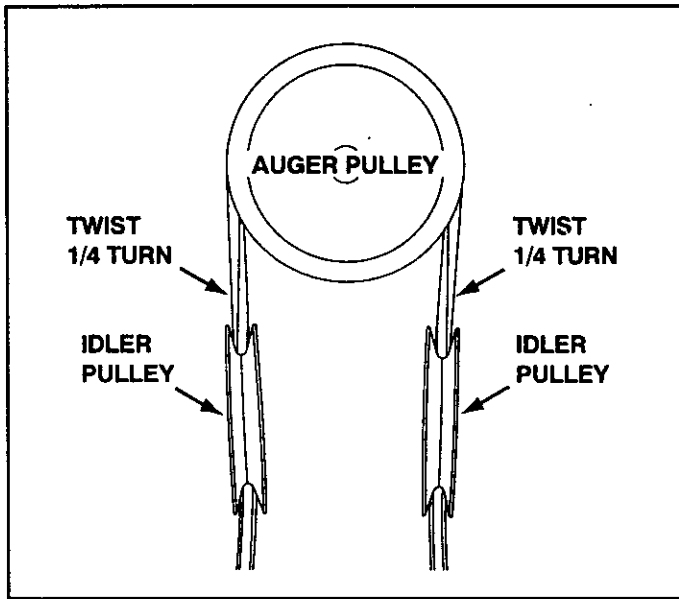

FIGURE 17
- Make sure the auger belt is correctly assembled to the snow thrower. The belt must pass over the top of the auger pulley and then twist 1/4 turn to pass underneath the two side idler pulleys on the snow thrower. The "V" side of the belt must seat in the grooves of all three pulleys. See figure 17.